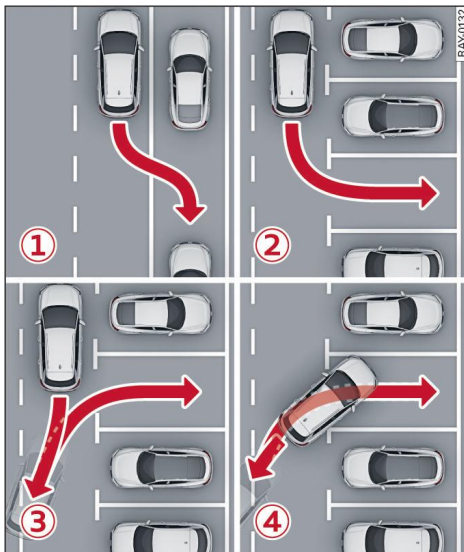

Fig. 128 Overview of parking options
- You can approach a perpendicular parking space forwards and then activate the system. However, for this purpose the front of the vehicle must already be in the space  ⇒ *page 168, Fig. 128* so that the sensors can measure the space.